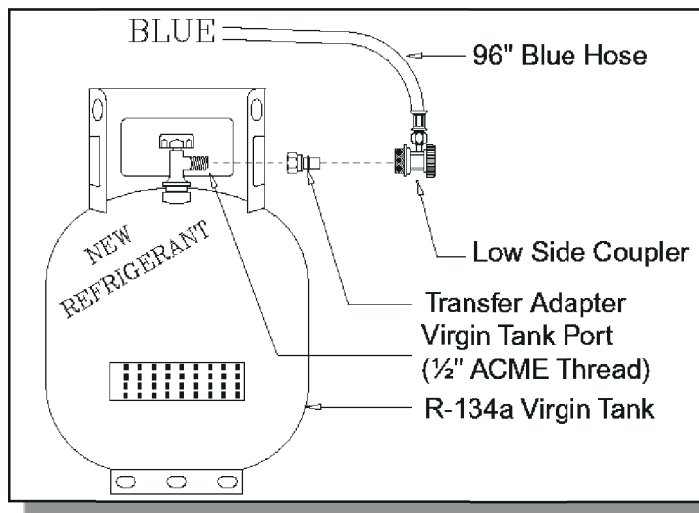

Fig.11: Virgin tank hookup
5. Hook up the low side service hose to the tank with new refrigerant. Use the tank transfer adapter (supplied with the machine, see Figure 11) to hook up the 134a blue quick connect to the tank with new refrigerant.